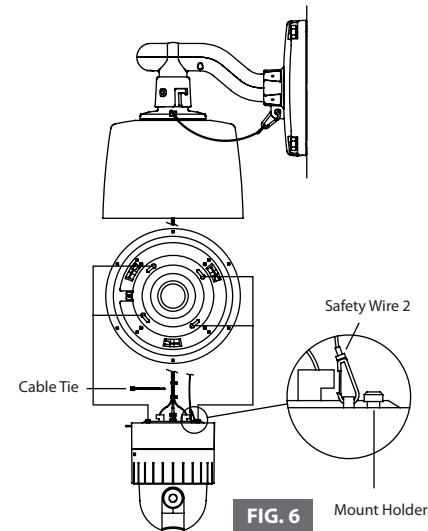

FIG. 6
- Hang the Safety Wire 2 of the Outdoor Housing up in the Camera as FIG. 6. You can make wires simple by cable ties. Insert mount holder and twist the camera counterclockwise. (FIG. 11)